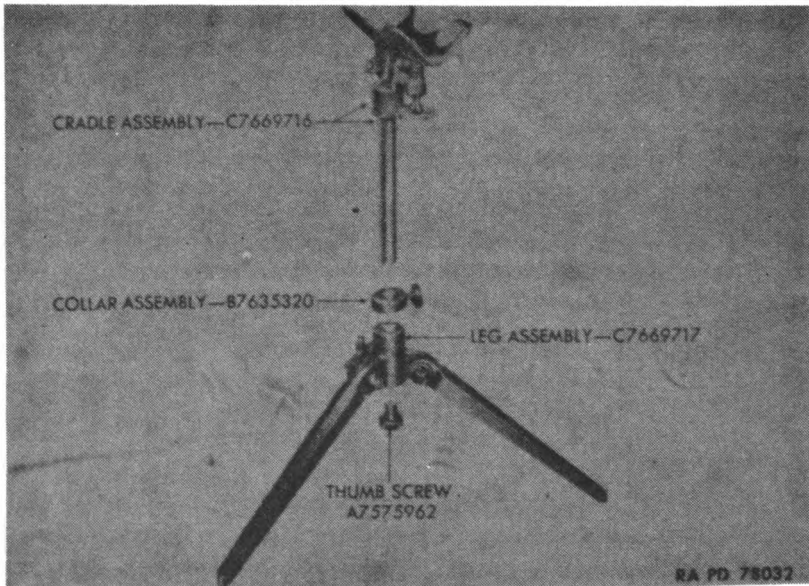

Figure 25—Tripod M15—Partially Disassembled
a. *General.* Tripod M15 comprises three subassemblies: cradle assembly, collar assembly, and leg assembly. To break the tripod down into these subassemblies: Remove thumbscrew A7575962. Loosen the clamping thumbscrew in the leg assembly, and remove the cradle assembly from the leg assembly. Loosen the thumbscrew in the collar assembly and slide that assembly off the cradle assembly shaft (fig. 25).